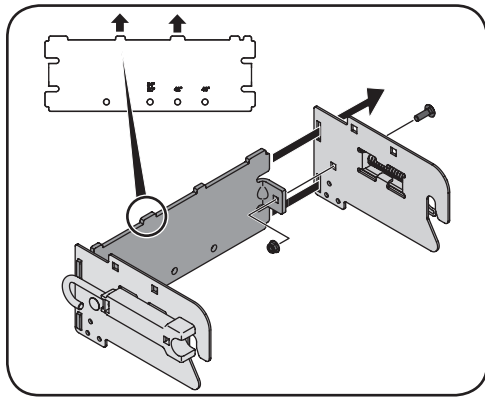

Figure 2-1
1. Insert the ends of the rear support bracket through the narrow slots at the rear of each side support bracket. See Figure 2-1.
2. Secure folded tabs on rear support bracket to side support brackets with a carriage screw (ref. #9) and nylon lock nut (ref. #11). See Figure 2-1.
NOTE: The latches on the side support brackets must be positioned with the opening facing down on the outside of the bracket and the tabs on the rear support bracket must be facing up. See inset in Figure 2-1.